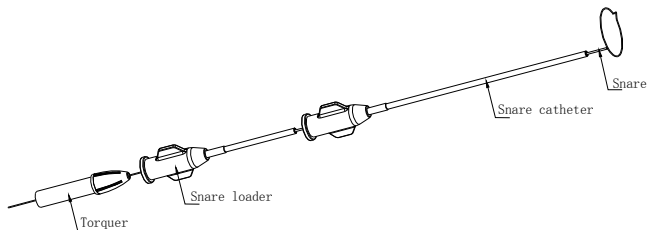
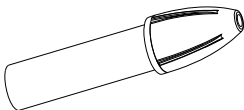

Figure 1 SeQure™ Snare System
Figure 5 Torquer
SeQure™ Snare System, including General Snare System, Petite Snare System and Micro Snare System according to different loop sizes and the length of the snare, consists of a snare, a snare catheter, a snare loader and a torquer. The snare is constructed of a nitinol shaft and a loop, and they are connected together on the tapered section of the nitinol shaft by the compression force of PTFE heat shrink tubing. The loop is made of braided nitinol wires coiled with a Titanium Nitride coated tungsten wire to enhance radiopacity. The plane of the loop is perpendicular to the nitinol shaft. The pre-formed snare loop can be introduced through catheter without risk of deformation because of shape memory and the super-elastic properties of nitinol. The snare catheter is made of Polyethylene (PE) tubing. The Luer Lock connector has a radiopaque marker band at its distal tip to enhance the visibility during the operation. The snare is pre-assembled with the snare loader and the torquer, and then packaged with corresponding catheter. (See Figure 1 to Figure 5)